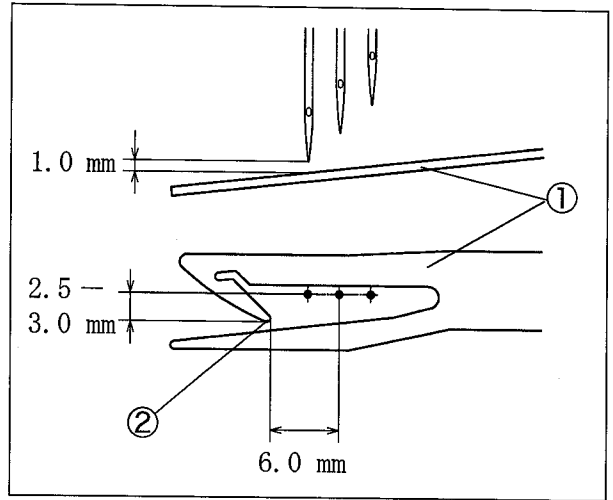

Fig. 31
- (1) Raise the needles at the heighest points.
- (2) Loosen the screw ③ so that the hook ② of the wiper ① passes 2.5 - 3.0 mm from front of the center of the needle. (Figs. 31 and 32)
- (3) Loosen the screw ④ to pass the wiper ① 1.0 mm below the left needle. (Figs. 31 and 32)
Loosen the screw ⑤ of the wiper holder to adjust it. (Figs. 31 and 32)